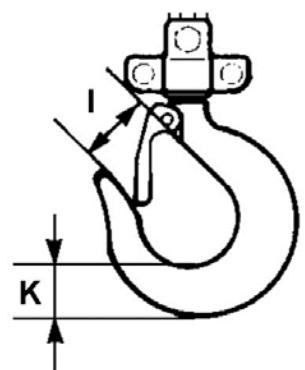

Fig. 4 Load hook
**Checks on load hook (see Fig. 4 and Table 1)**